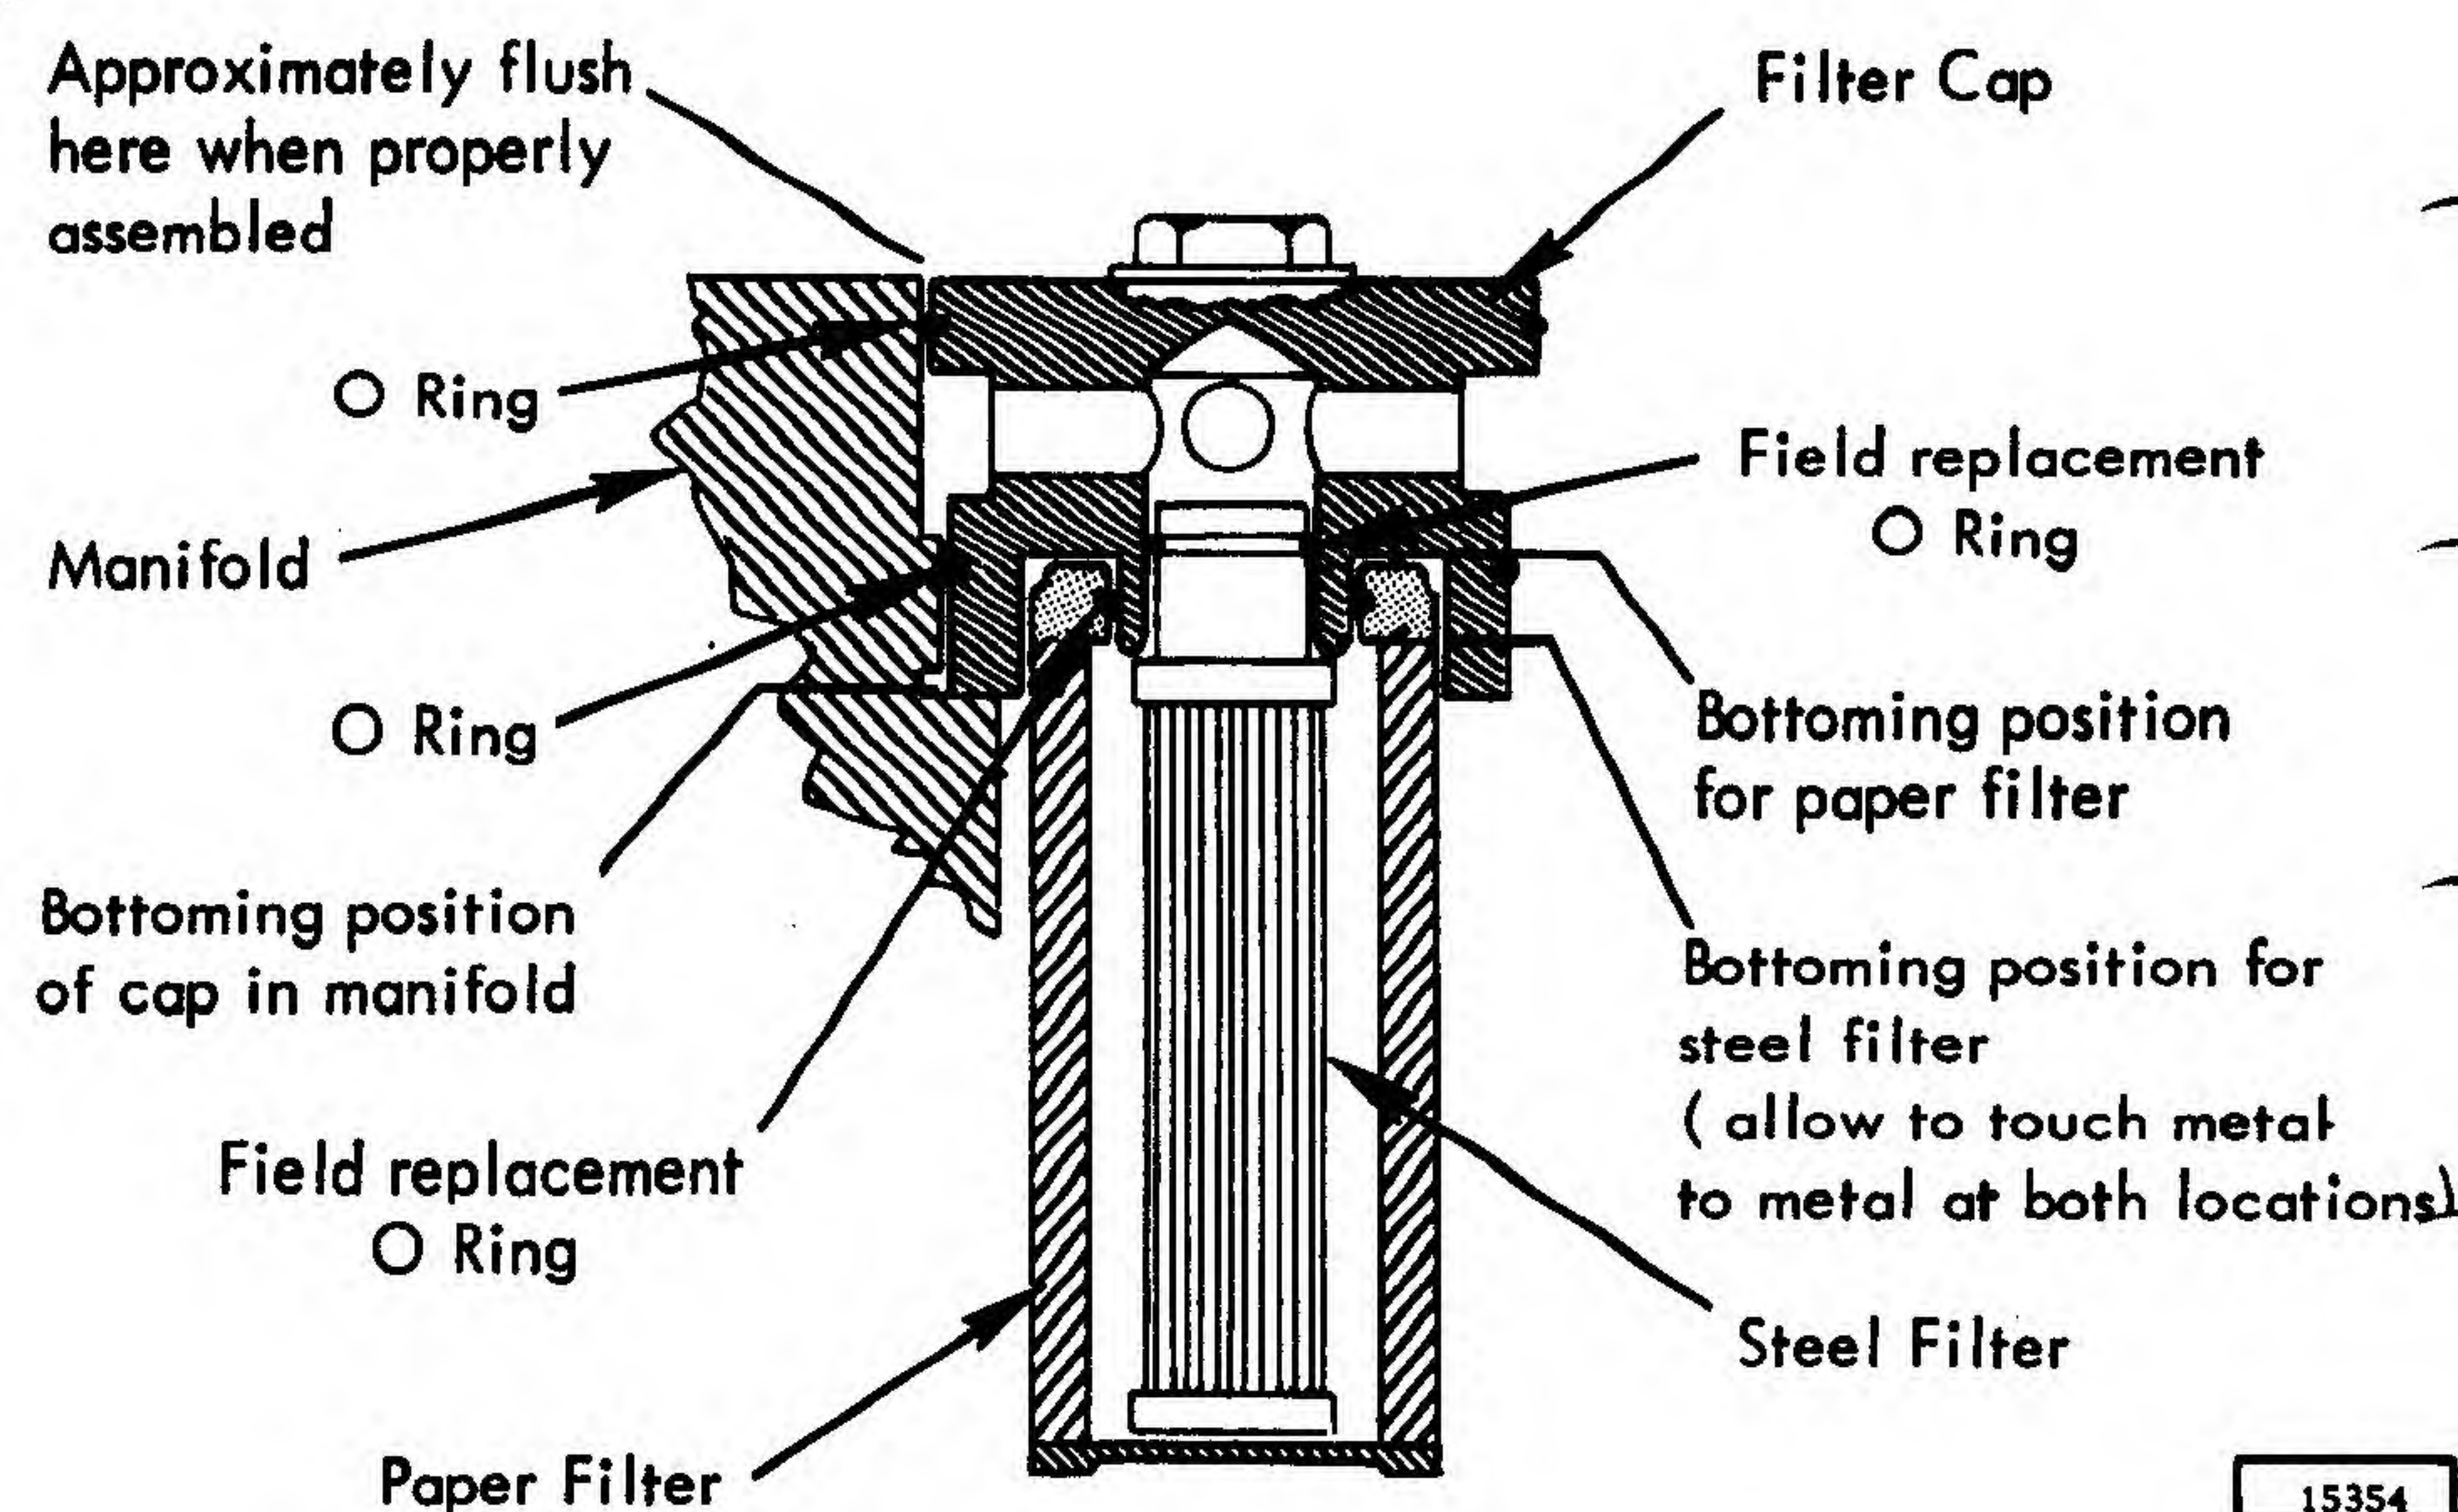

Figure 4-38. Mechanical Filter Assembly
- b. Remove the wrapping from the new steel filter, (P/N 2161309), using care to handle or hold at bottom end cap. Be sure that there is an O-ring on the outer diameter of the neck. Figure 4-38 shows field replacement O-ring.
- c. Attach the new steel filter to the cap by inserting it into the cap boss. Bottom the filter to the shoulder as shown in Figure 4-38.
6. Remove the wrapping from the new paper filter, (P/N 2161310), using care to handle or hold at bottom end cap. Be sure that there is an O-ring in the inner diameter of the filter neck. Figure 4-38 shows field replacement O-Ring.
7. Assemble the new paper filter or the used paper filter (See Step 5b) to the new cap by slipping the filter over the assembled steel filter and by fitting over the cap boss. Push the filter to the bottom of the boss as shown in Figure 4-38.
8. Install filter cap assembly in the filter port of hydraulic power supply manifold. When the upper cap O-Ring enters the manifold port, rotate cap slowly to prevent shearing or cutting the O-Ring. Continue rotating cap until it just bottoms. Do not torque beyond this bottom position in which the top edge of the cap is approximately flush with the surface of the manifold. If the cap does not seat properly, remove and check the filters to be sure they are bottomed in the cap boss (Figure 4-38).